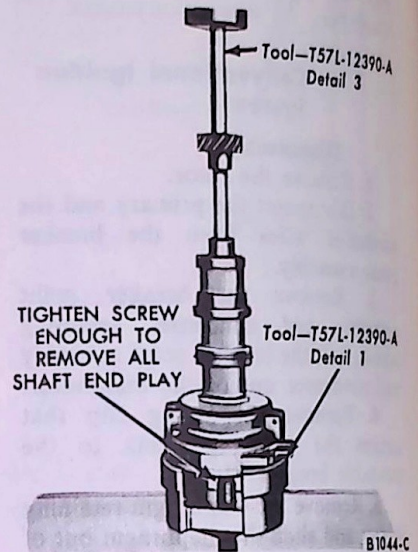

FIG. 23 Installing Original Shaft and Gear
8. Install the assembly in a press. Press the gear on the shaft (Fig. 23), using the marks made on the gear and shaft as guides to align the pin holes.